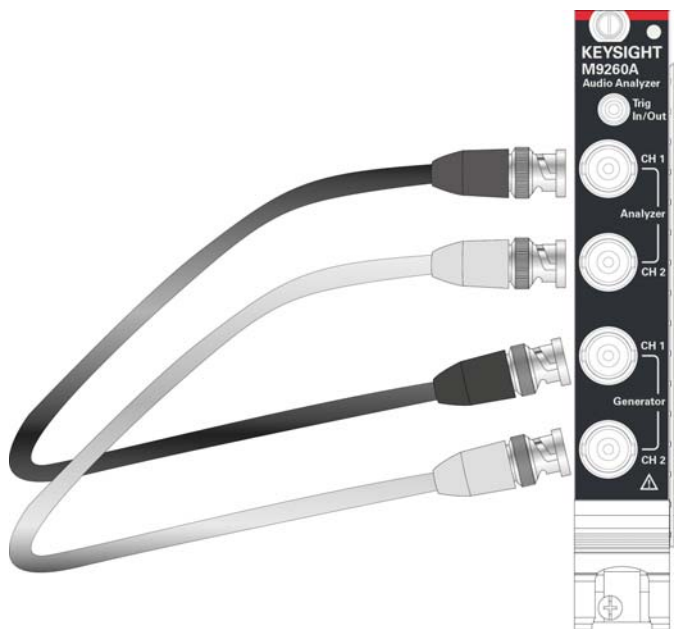

Figure 1-8 Connecting the BNC-BNC cables from the generator outputs to the analyzer inputs
- 2 Connect the Generator CH1 output to the Analyzer CH1 input, and the Generator CH2 output to the Analyzer CH2 input using BNC cables as shown in Figure 1-8.